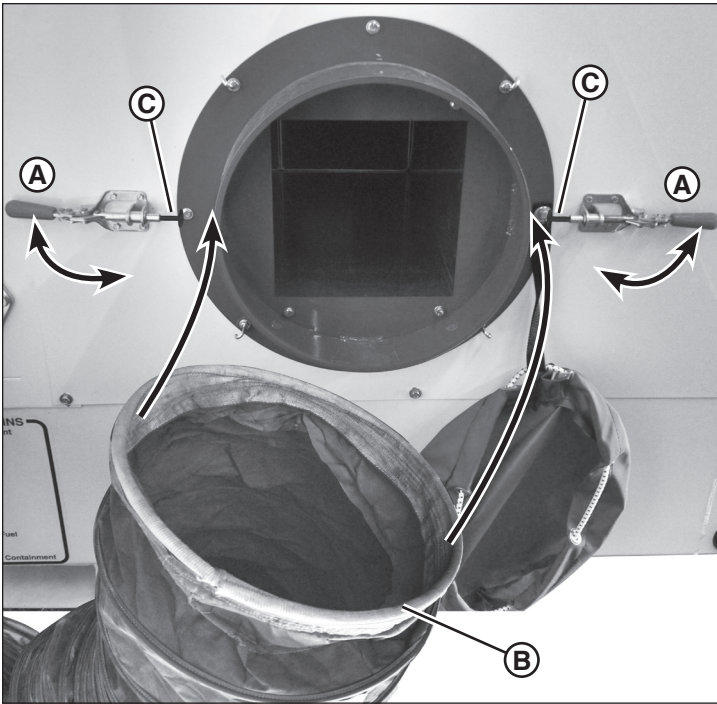

Figure 16
2. Open the clamps (A, Figure 16, not all models) by moving the clamp levers outward away from the heater duct.
3. Install the cuff of the flexible heater ducting (B, Figure 16) over the heater duct. Secure with the clamps (if equipped). Adjust the threaded clamp pads (C) to make sure the ducting is secured to the heater duct.